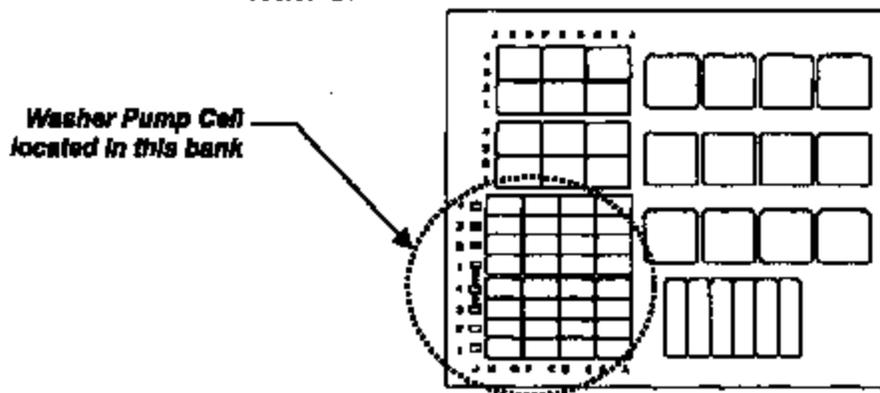

Figure 1
- B. Locate cell labeled, "5A WASHER PUMP," in the lower left bank of cells (see figure 1).